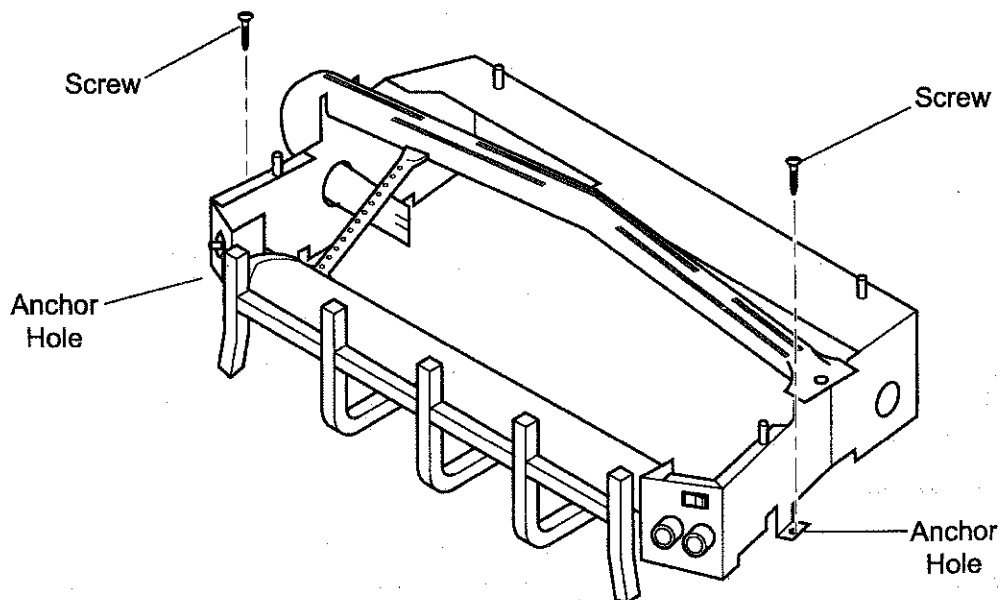

Figure 14 - Securing Heater to Floor of Fireplace/Firebox
2. Anchor holes are located on the right and left sides of the unit. After centering the grate correctly, mark the hole positions on the fireplace/firebox floor. Drill two (2) $\frac{5}{32}$ " diameter holes approximately $1\frac{1}{2}$ " deep.
3. Anchor the grate to the fireplace/firebox floor using the screws provided. See Figure 14.